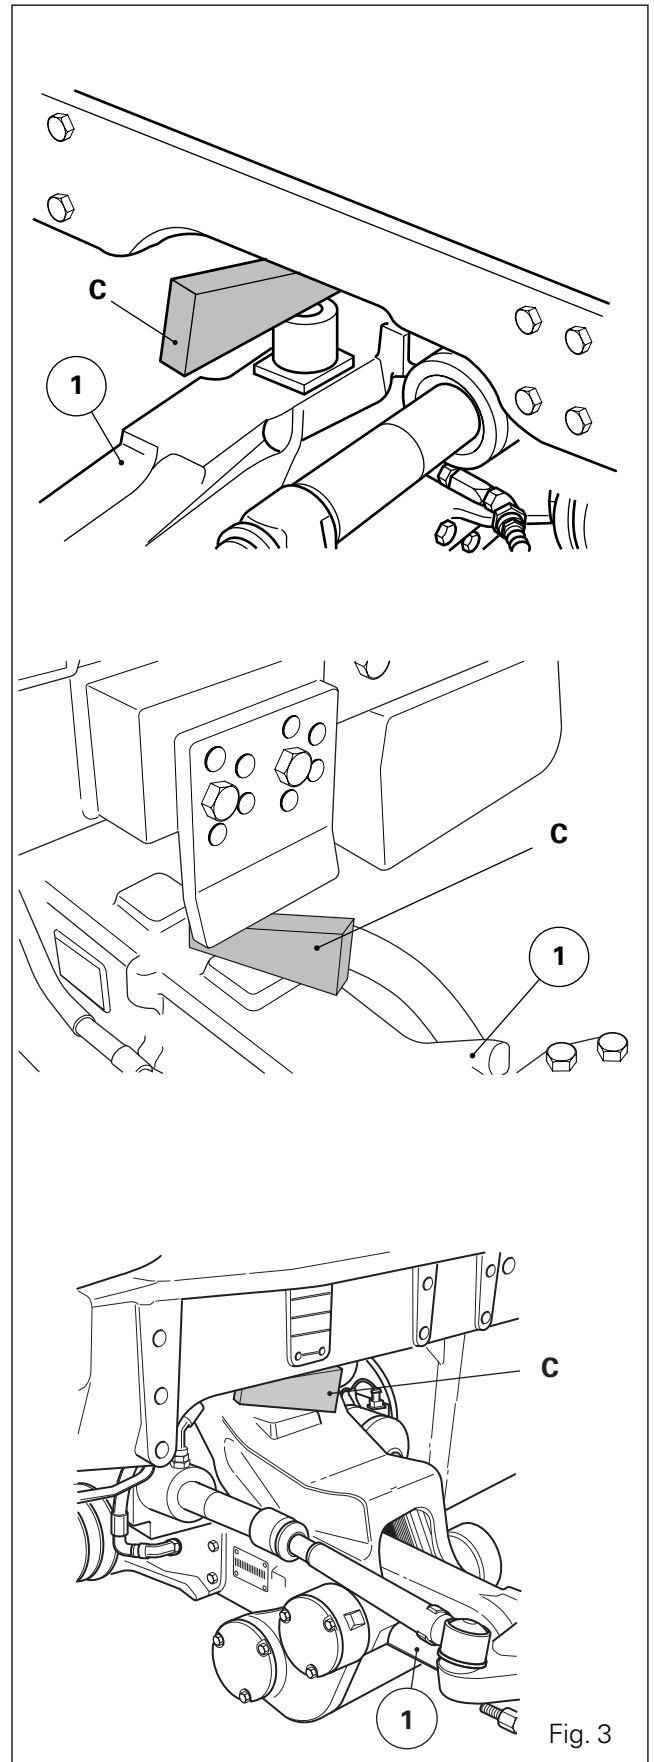

Fig. 3
18. Block the front axle (1), using suitable chocks - "C" (depending on the type of front axle Dana - ZF 5052 or Carraro) (Fig. 3).
19. For tractors fitted with Park lock transmission locking, free lower shaft (2) (see section 2C01, Fig. 3) by turning the special screw on the unit located on the right-hand side of the intermediate housing clockwise until a hard point is felt (see section 6F01).